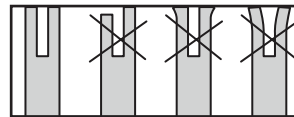

Fig. 22
5. Check the guide bar 'rail' for wear: Hold a ruler (straight edge) against the side of the guide bar and 'cutter side plates'. If there is a gap between the ruler and guide bar the guide bar 'rail' is normal. If there is no gap (ruler flush against the side of the guide bar) the guide bar 'rail' is worn and needs to be replaced with a new one of the same type (Fig. 22).